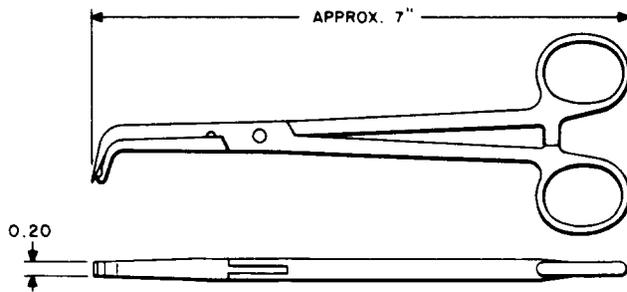

Fig. 8—KS-14457 Pin Extractor
2.09 KS-14457: The KS-14457 pin extractor (Fig. 8) is used to remove and replace pins in the KS-13882 perforators in Automatic Message Accounting (AMA) centers and central offices.